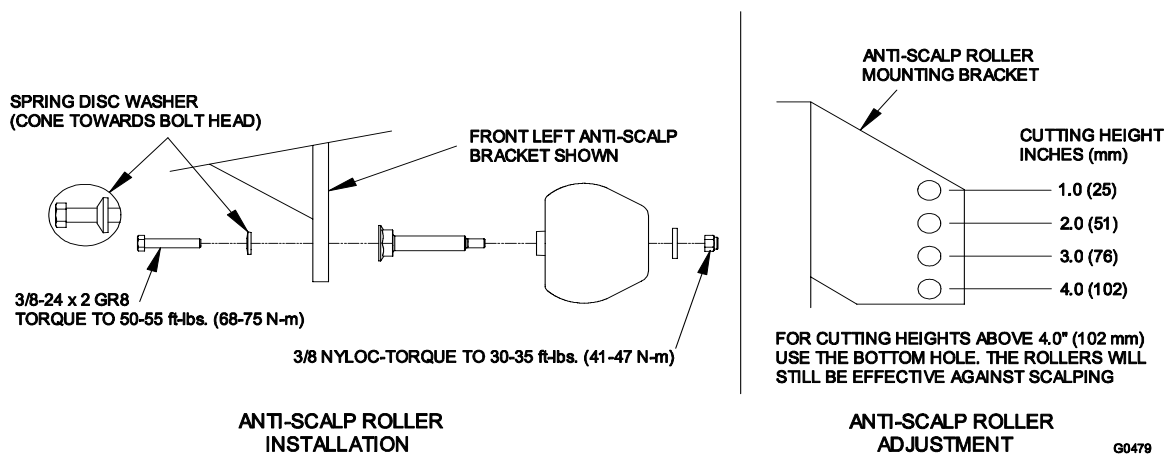

FIGURE 6
- Adjust anti-scalp rollers for Normal Operating Conditions. Place rollers in one of the positions shown in Figure 6. Rollers will maintain 3/4 in. (19 mm) clearance to the ground to minimize gouging and roller wear or damage.